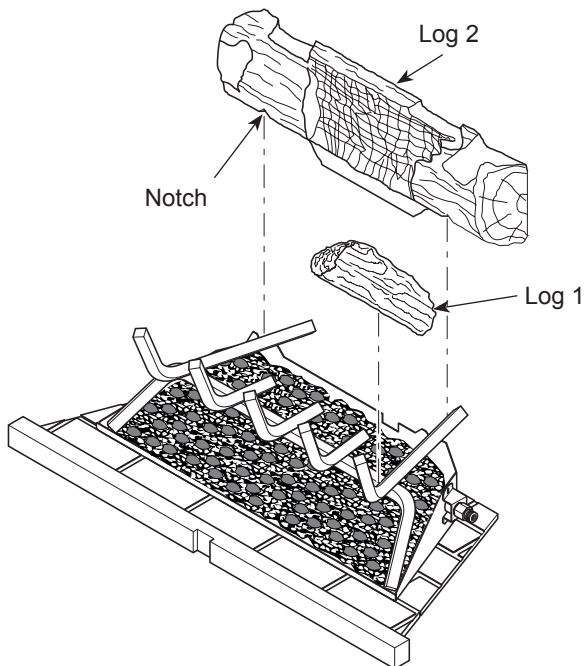

Figure 23 - Installing Logs 1 and 2
1. Place small front right log (log 1) on right front of grate as shown in **Figure 23**.
2. Place large back log (log 2) onto grate making sure notches rest over grate as shown in **Figure 23**.